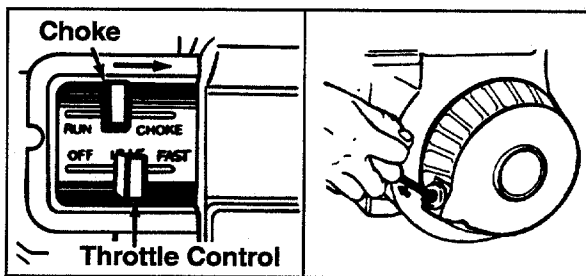

Figure 8
3. Place the throttle control lever in FAST position. See Figure 8.
5. Grasp starter handle (see Figure 8) and pull rope out slowly until engine reaches start of compression cycle (rope will pull slightly harder at this point). Let the rope rewind slowly.
4. **Throttle Control:** The throttle control lever adjusts the engine speed and stops the engine. With the throttle control lever pushed completely forward, the carburetor is in START position. Pulling the throttle control back slightly adjusts the engine speed to FAST. Pulling the throttle back further reduces the engine speed to SLOW. Pull the throttle completely back to stop the engine. Refer to Figure 8. Use maximum engine speed for deep tilling. Move the throttle control to SLOW when transporting the tiller.